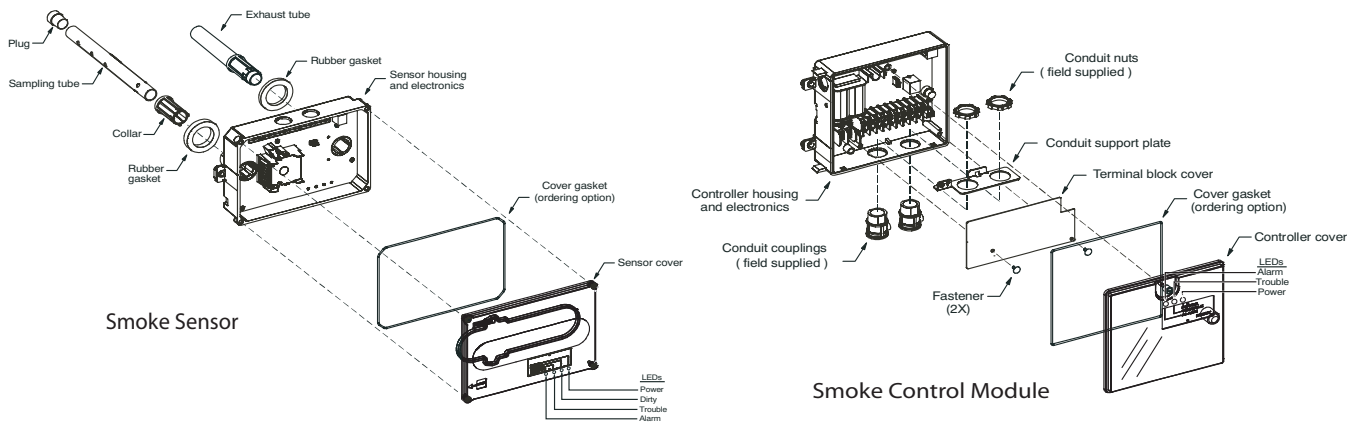

Fig. 2 – Smoke Detector
Table 1 lists the accessory package contents. Fig. 2 shows the smoke detector.
4. Slide exhaust tube into the sensor. The exhaust tube should be inserted from the back of the sensor, into the hole with four slots, and locked into place. (See Fig. 2.)
6. Slide the sampling tube collar over the sampling tube until the tabs lock into the tube. (See Fig. 2.)
9. Place rubber gaskets over each sampling tube on smoke detector. (See Fig. 2.)